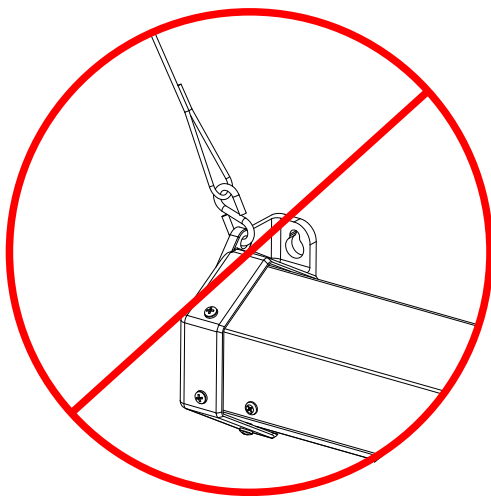
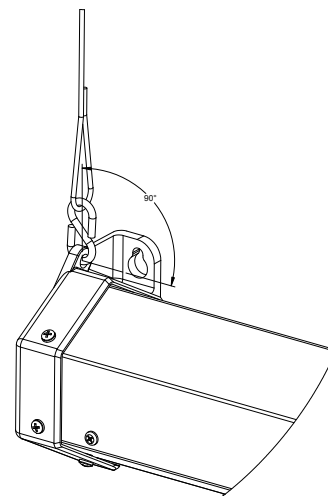
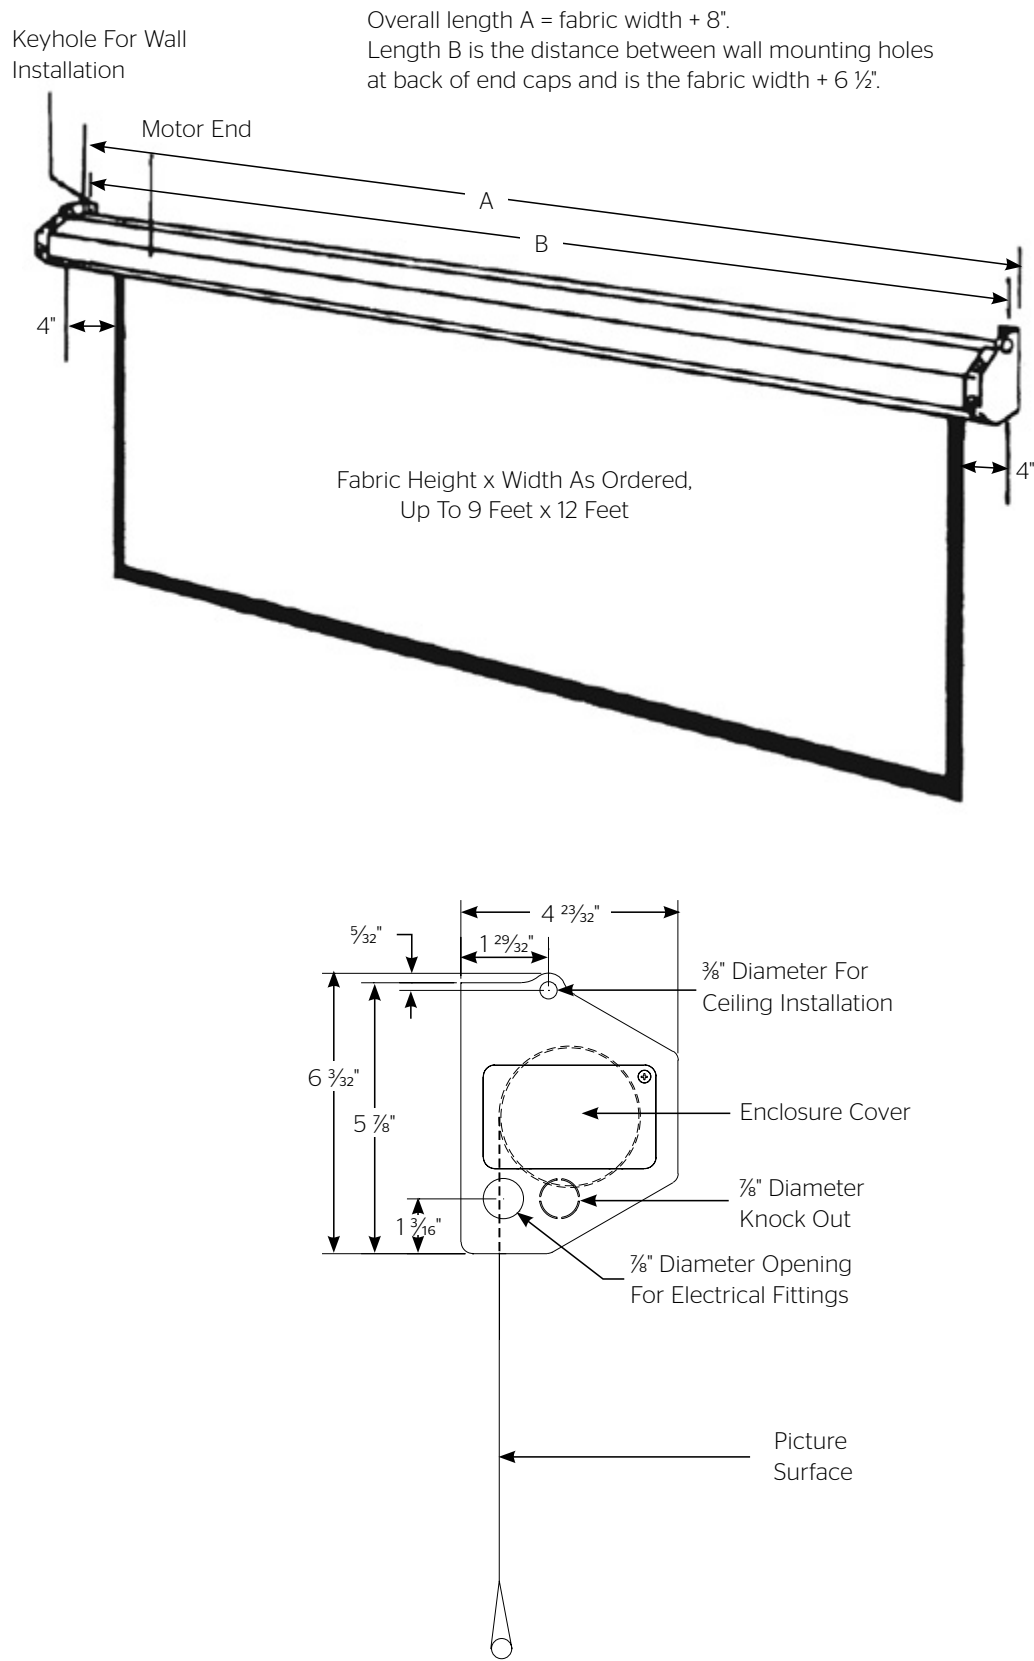

Figure 3
Figure 4
Figure 5
NOTE: DO NOT hang from the end caps at an angle. See Figure 3. Must be perpendicular to the mounting See Figure 4.
To Reduce Screen Drop: Turn the white limit switch screw (Figure 3) clockwise to decrease the amount of screen drop. Run the screen down to test the stop position. If the screen drops too far, raise the screen about one foot and adjust the limit switch again. Repeat until the desired position is set.
2. Locate the two tactile buttons on the back of the switch. They are square silver with black round buttons. See Figure 4 (VPI) or Figure 5 (LVC) for diagram.